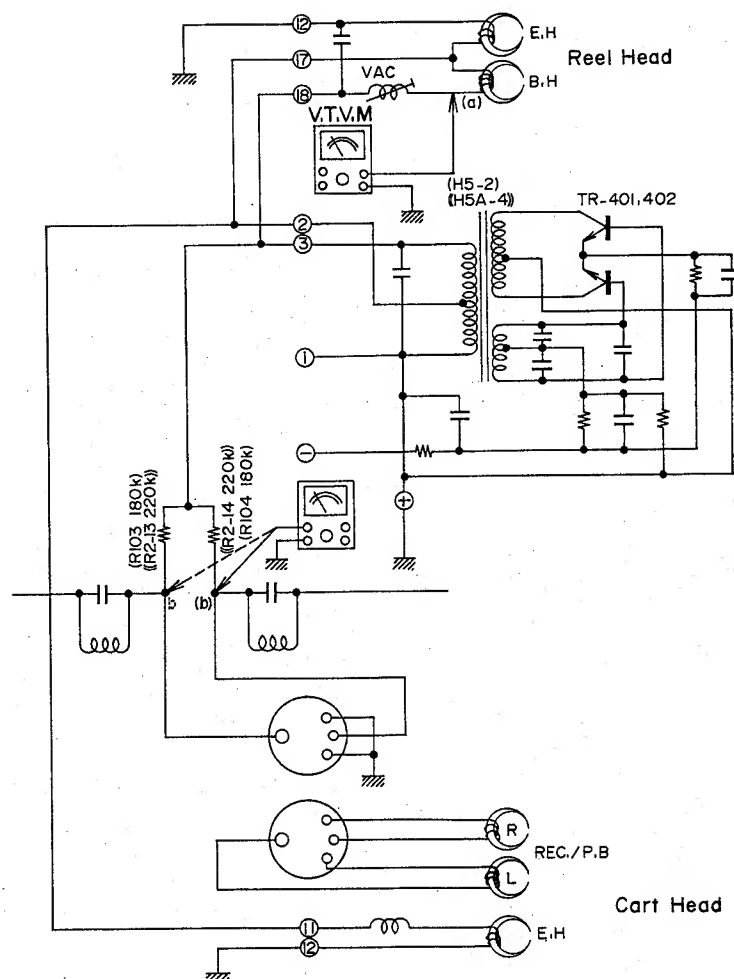

Fig. 2
- Reel (See Fig. 2)
- Cartridge (See Fig. 2)